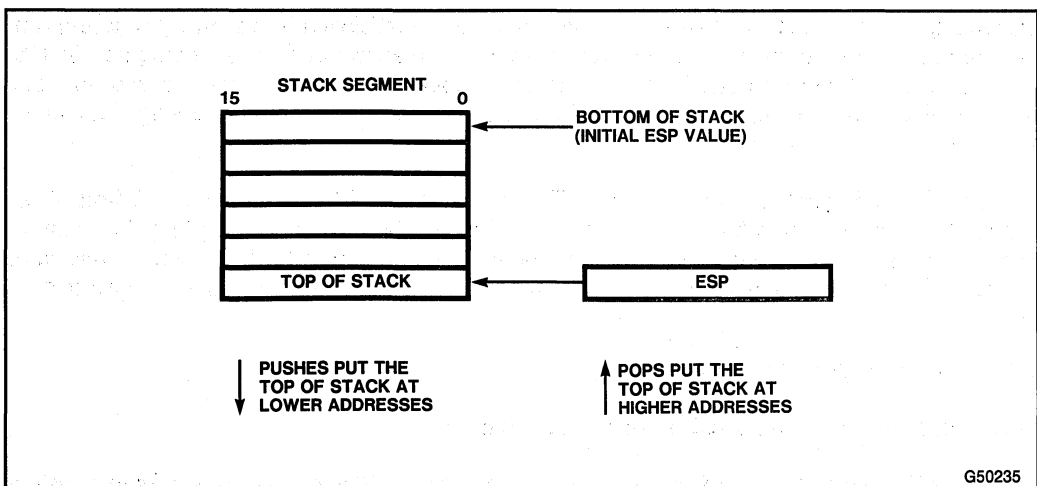

Figure 2-8. Processor Stacks
- Stack Pointer (ESP) Register:** The ESP register holds an offset to the top-of-stack (TOS) in the current stack segment. It is used by PUSH and POP operations, subroutine calls and returns, exceptions, and interrupts. When an item is pushed onto the stack (see Figure 2-8, the processor decrements the ESP register, then writes the item at the new TOS. When an item is popped off the stack, the processor copies it from the TOS, then increments the ESP register. In other words, the stack grows *down* in memory toward lesser addresses.